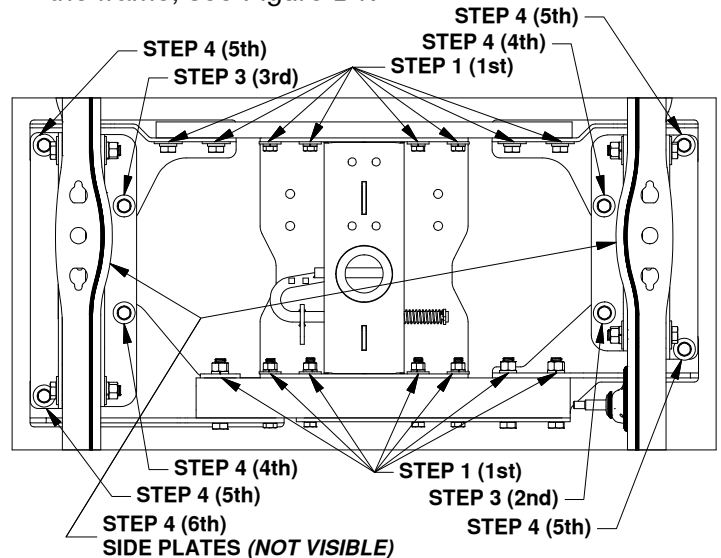

Figure D1: Bottom of truck frame looking up at hitch installation.
1. **Step 1:** First, tighten the hardware attaching the cross members to the center section and each cross member bracket, see Figure D1
3. **Step 3:** Tighten the 1/2" x 1-1/2" bolt with the thread locker pre-applied between the passenger front cross member bracket and the passenger inside side plate. Next tighten the 1/2" x 1-1/2" bolt with thread locker between the driver rear cross member bracket and the driver inside side plate, see Figure D1. Examine the 4" hole again to be sure the socket is still centered in the hole.
4. **Step 4:** Once the hitch is properly located, tighten the remaining two bolts to the inside side plates. Then tighten the bolts with thread locker, that attach the outside side plates and the cross member brackets. Finally tighten the 5/8" bolts holding the side plates to the frame, see Figure D1.